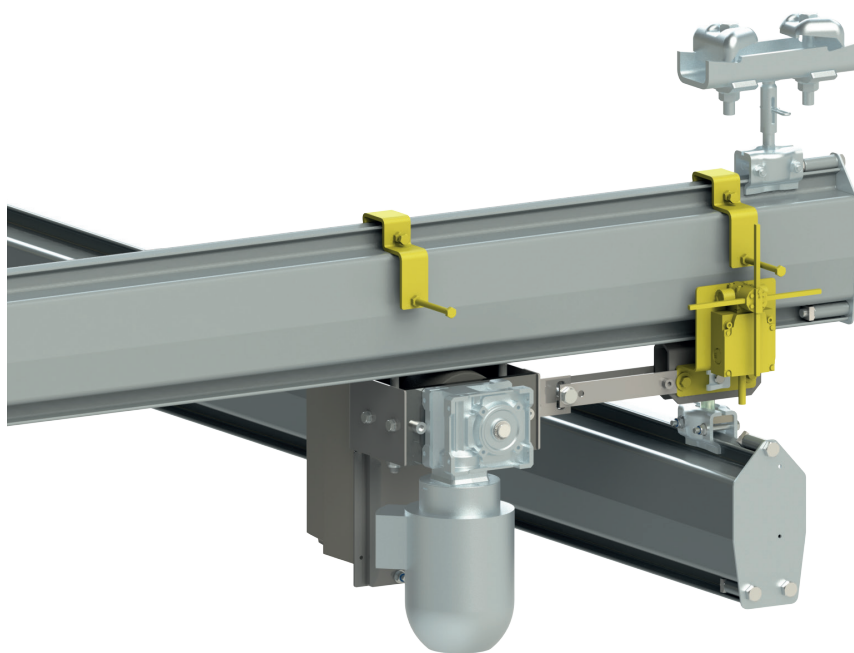

Figure 4. Limit switch
- When the crane is supplied with electrical movements it is usually fitted with limit switches, see figure 4. The limit switch has two breakers at each end, one for slowing the movement and the other for stopping it.